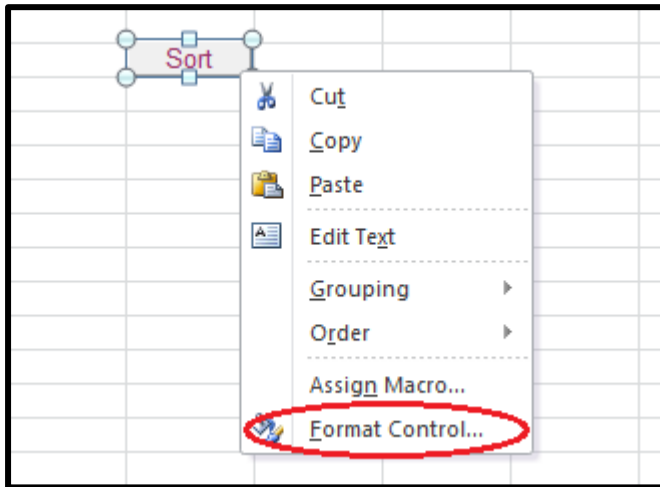

Figure 17 – Format Control, Properties
- Right click on the new **Sort** button, select **Format Control** and change the colour of the text to plum. If the right click does not bring up the options you are expecting, try right clicking closer to the edge of the selected shape. See Figure 17
- Again right click on the new **Sort** button, select **Format Control**. See Figure 17